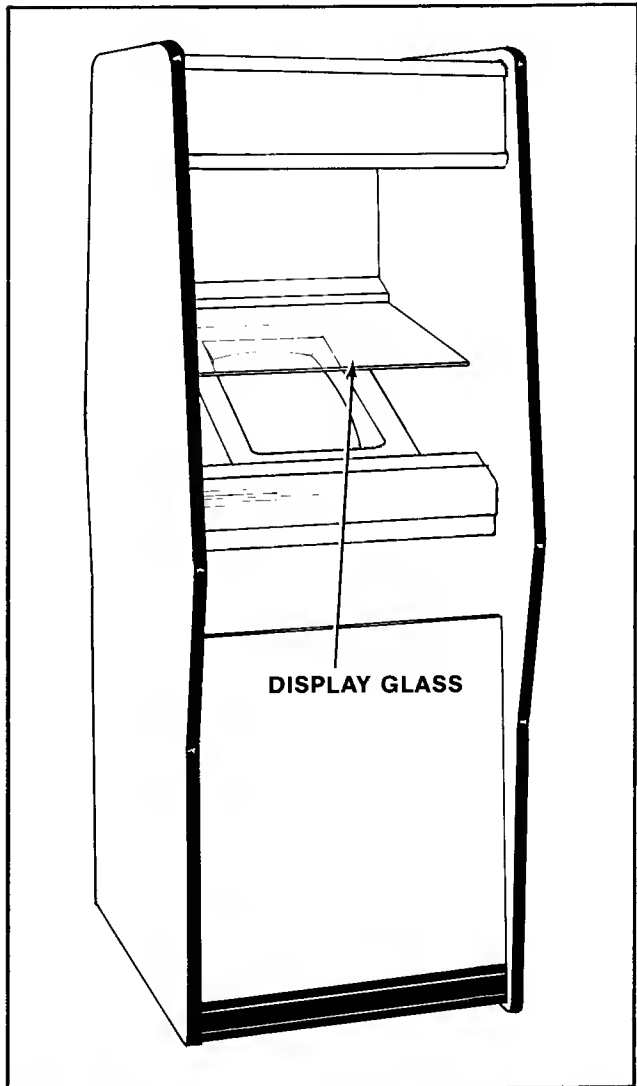

Figure 4-6 Removing Main-Display-Glass & T.V. Bezel — Upright
- ☐ By putting your finger in the hole in the middle of the main-display-glass support, you can lift it up and out. See Figure 4-6.